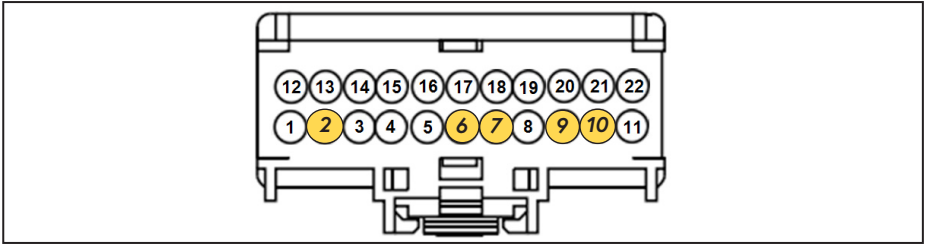

Figure 34 — SEIC interface connector
- Splice the following VMAC wires to the OEM Stationary Elevated Idle Control (SEIC) interface connector wires (Figure 34, Table 2).